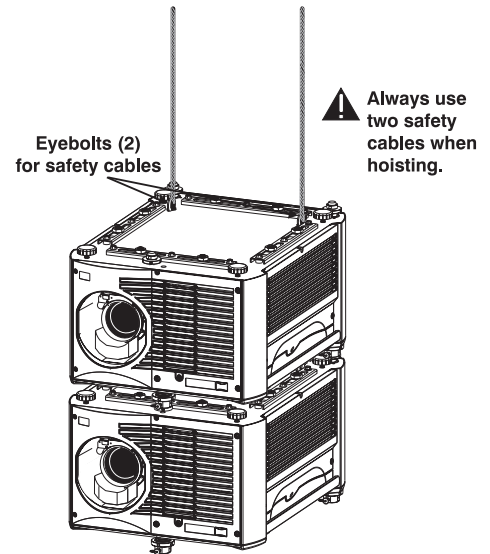

Figure 2.8. Attach Safety Cables
Attach a safety cable to each of the (2) eyebolts mounted on the bottom of the projector (Figure 2.8).